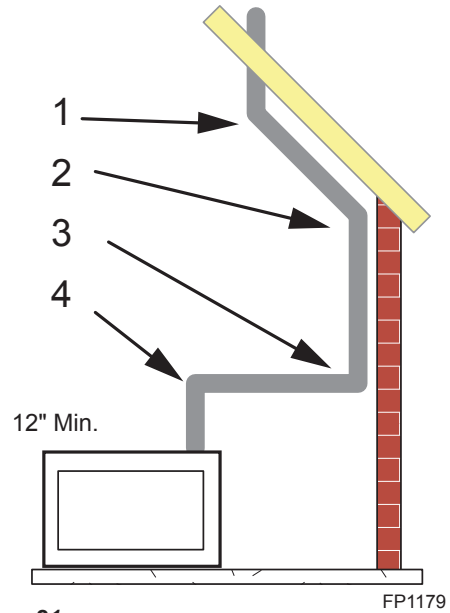

Figure 21 - Maximum Elbow Usage
- Two sets of 45° elbows offsets may be used within the vertical sections. From 0 to a maximum of 8' (2.5 m) of vent pipe can be used between elbows. *Figure 21*
- The maximum angular variation allowed in the system is 270°. *Figure 21*
NOTE: Pay special attention to these installation instructions for required clearances (air space) to combustibles when passing through ceilings, walls, roofs, enclosures, attic rafters, etc. Do not pack air spaces with insulation. Also note maximum vertical rise of the venting system and any maximum horizontal offset limitations. Offsets must fall within the parameters shown in Figures 21 and 22.